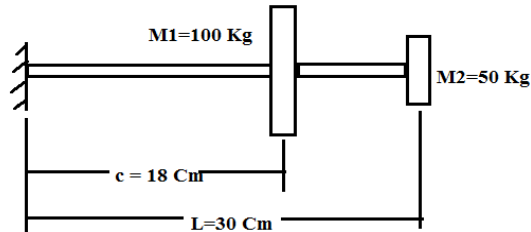

Fig.1
1. Find the fundamental natural frequency of transverse vibration for the system shown in Fig.1 by Dunkerley's method. $E = 1.96 \times 10^{11} \text{ N/m}^2$, $I = 4 \times 10^{-7} \text{ m}^4$